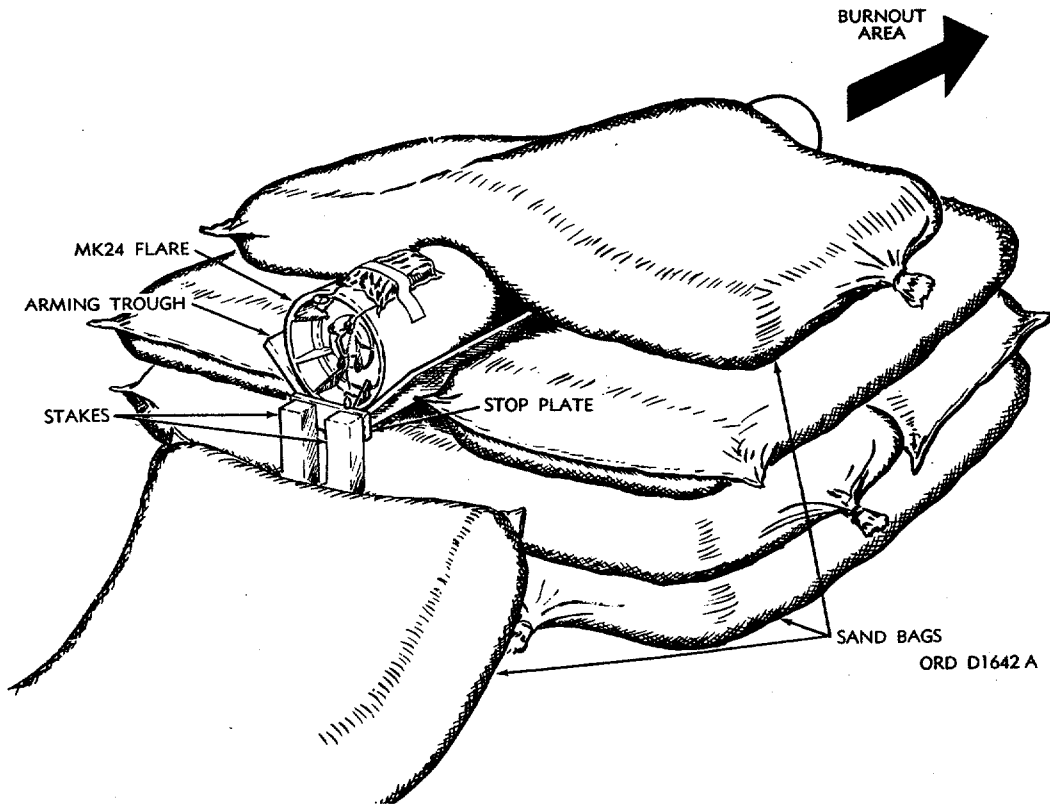

Figure 3-6. Flare in arming trough, staked and sandbagged.
(a) The arming trough (fig. 3-6) is designed to hold the flare in a horizontal position during arming procedures. In case of accidental functioning, the trough accomplishes the following:
4. Place sandbags under and on top of trough (fig. 3-6) to secure it in place.
The safety lanyard shown in figures 3-6 and 3-8 is not used in arming procedure for external launch from fixed-wing aircraft.
(c) Position flare in arming trough as indicated in figure 3-6.